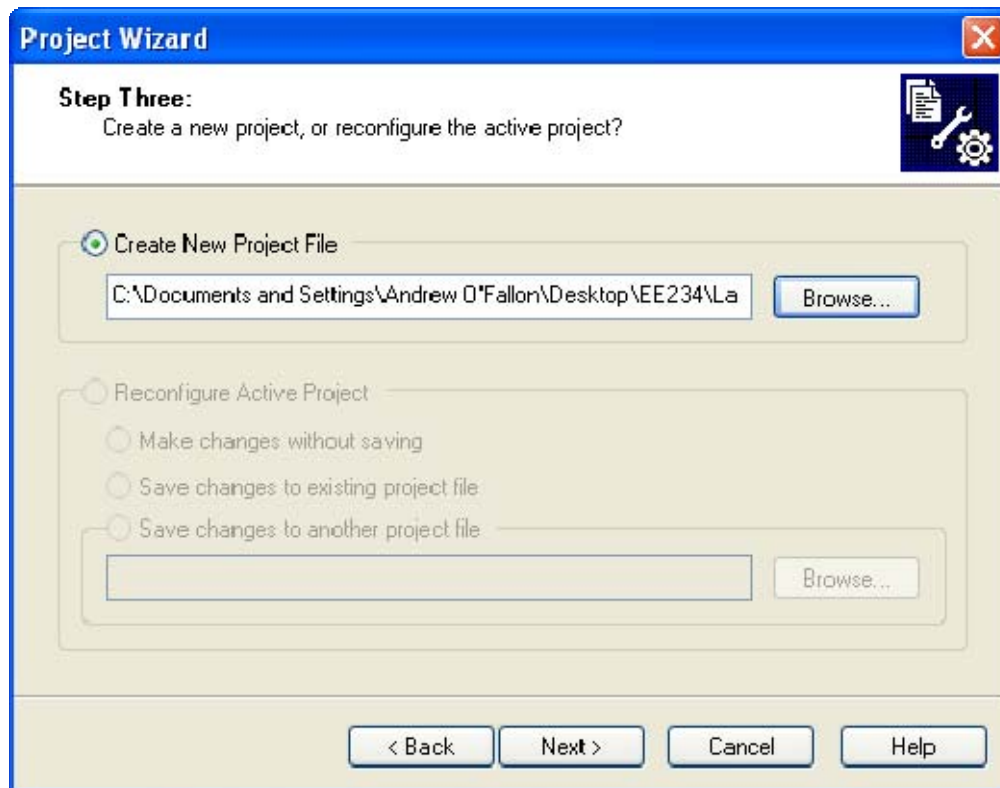

Figure 8: New Project Location
Step 6: “Browse” for an appropriate path to store your project and provide an appropriate project name (Figure 8). Note: MPLAB does not, by default, create a folder for all of your files related to a project, be sure to create all appropriate folders yourself. Click “Next >”.